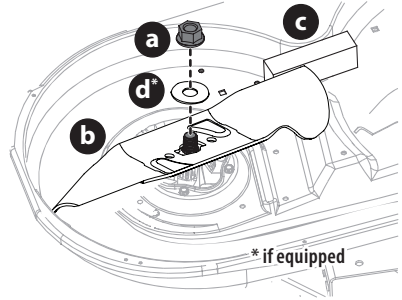

Fig. 51
2. Use a 15/16 inch wrench to hold the hex nut on top of the spindle assembly when loosening the hex nut (a) and washer (d)* securing the blade (b). A block of wood (c) may be placed between the deck housing and the cutting edge of the blade (b) to help in breaking loose the hex nut (a) and washer (d)* securing the blade (Fig. 51).
- When re-installing blades, be sure of the following (Fig. 51 on page 32):
- Tighten hex nuts (a) to 70-90 ft-lbs (95-122 N-m) (Fig. 51 on page 32).